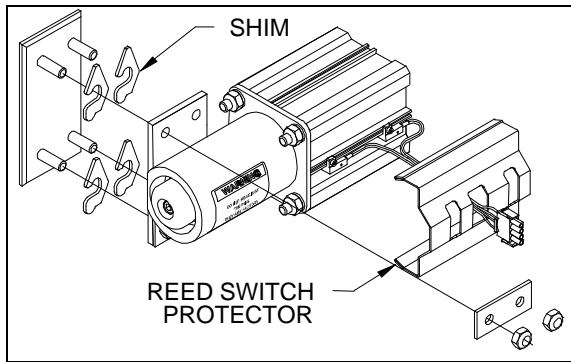

FIGURE 13 : LOCKING PIN INSTALLATION
5. Align the locking pin with the slide-out receptacle by putting shims between the locking pin base and the vehicle structure (figure 13). The shims must be inserted with a sliding fit. Make sure to put as many shims on the upper studs as on the lower studs to keep the locking pin base parallel to the vehicle structure.
4. Note the pneumatic tubing position, then disconnect the tubing and the electric cable from the locking pin assembly (figure 13).
6. Remove the sensor switches. Unscrew and remove the locking pin unit. Keep the shims for further installation (figure 13).